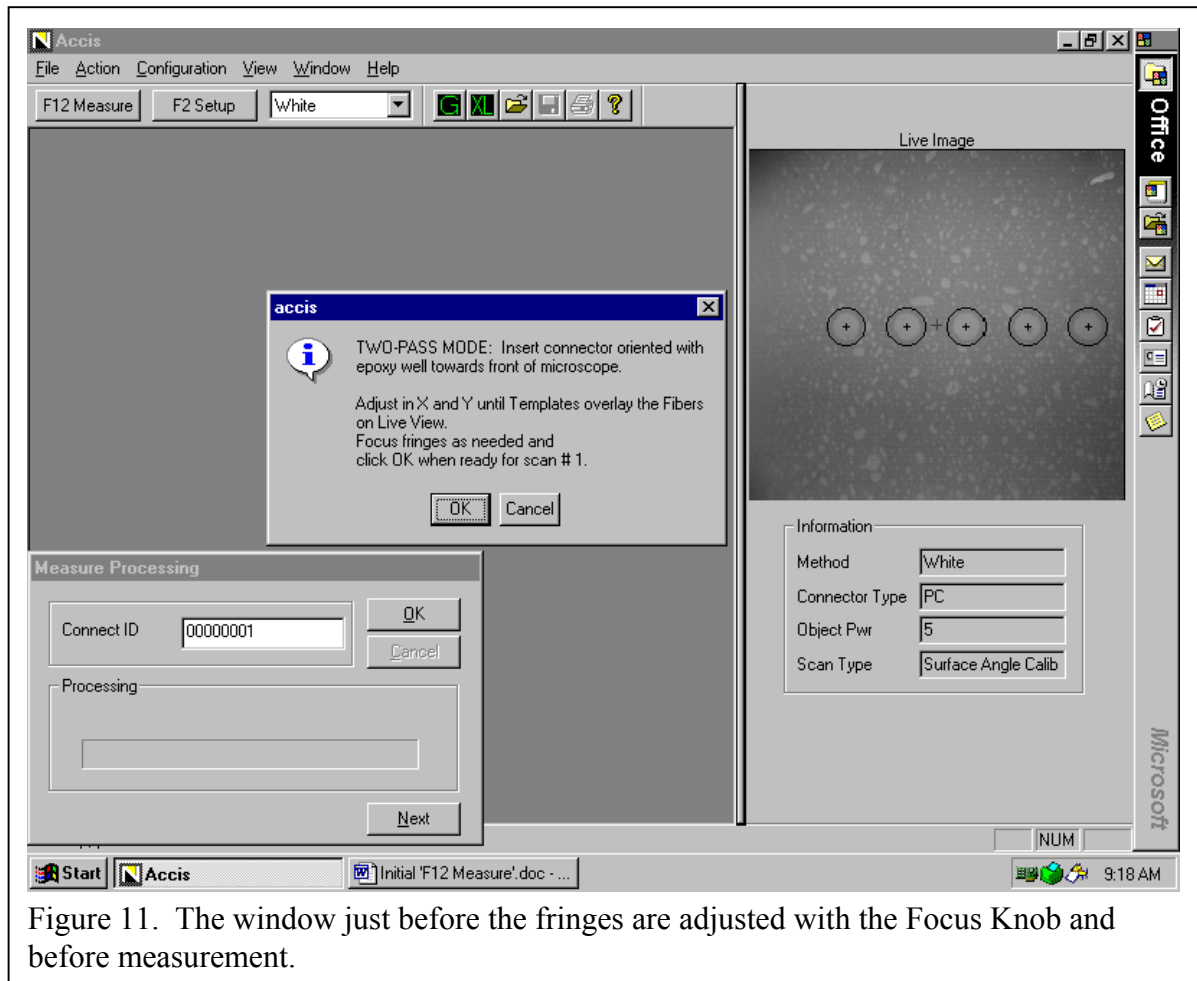

Figure 11. The window just before the fringes are adjusted with the Focus Knob and before measurement.
11. Measure. Press “F12 Measure” at the top of the screen. Adjust the X Knob so that the left 5 fiber holes are centered in the 5 template circles. See Figure 11. Adjust the fringes to the center of the Live Image window, using the Focus Knob. See Figure 9a. Press “OK” in the “accis” window.